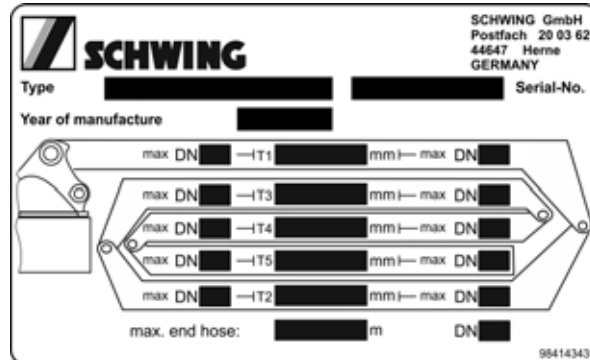

Fig. 150 Example: Type plate on 5-part boom
A distinctive type plate is located on the placing boom for the placing boom pumping line (**Fig. 150**). The nominal sizes (DN) specified on this type plate are the maximum allowable.
Caption for (Fig. 150)